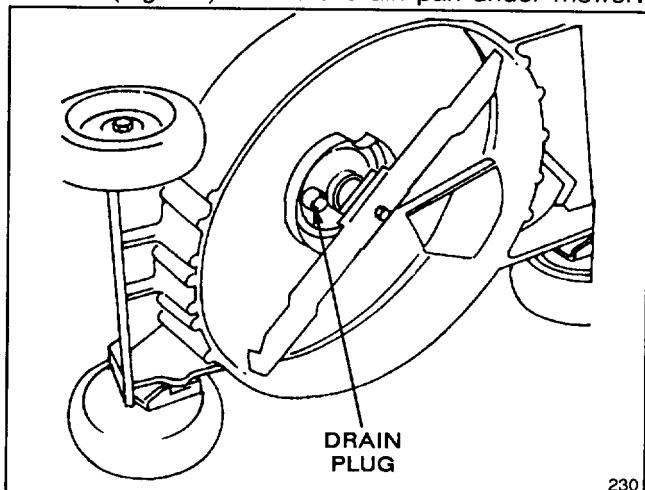

Figure 14
3. Tip mower on its right side. Remove drain plug from underside of mower using an adjustable wrench (Fig. 14). Place a drain pan under mower.